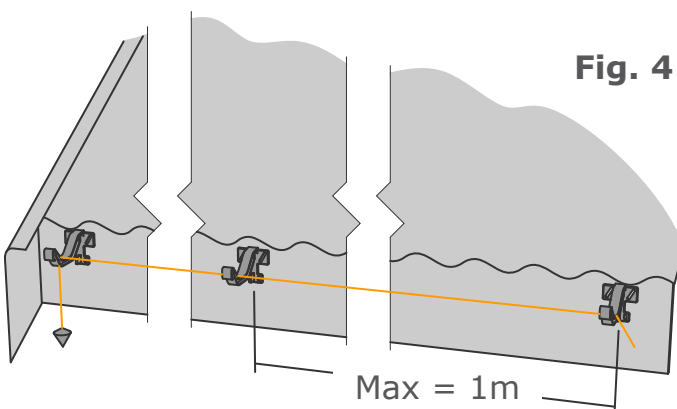

Fig. 4
3. The intermediate gutter brackets are now fitted up to the builders line at centers not exceeding 1 metre. Fig. 4.